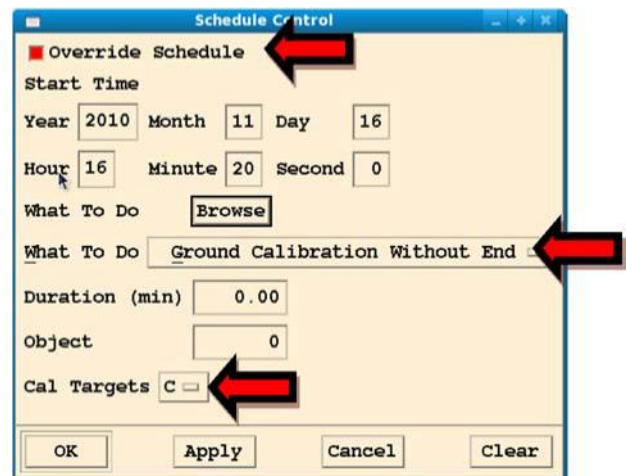

Figure 4-3: Schedule control window
- b. Turn Override Schedule button ON (Figure 4-3).
- c. Open the What to Do pull down menu and select Ground Calibration Without End (Figure 4-3).
- d. Open the Cal Targets pull down menu and select the C target (Figure 4-3).